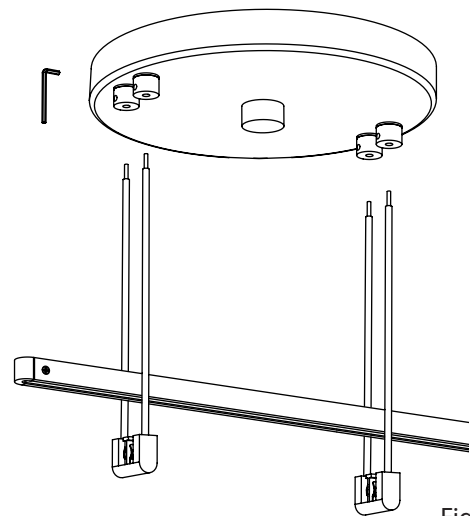

Fig. 2
1. Install the Double Cord Power Feed Hanger onto the Power Bar the same was as the Parallel Power Bar Hanger (page 28): press down firmly on the top of the Power Bar, while pressing up on the bottom of the Hanger, until the Power Bar clicks into place. (Fig. 2)